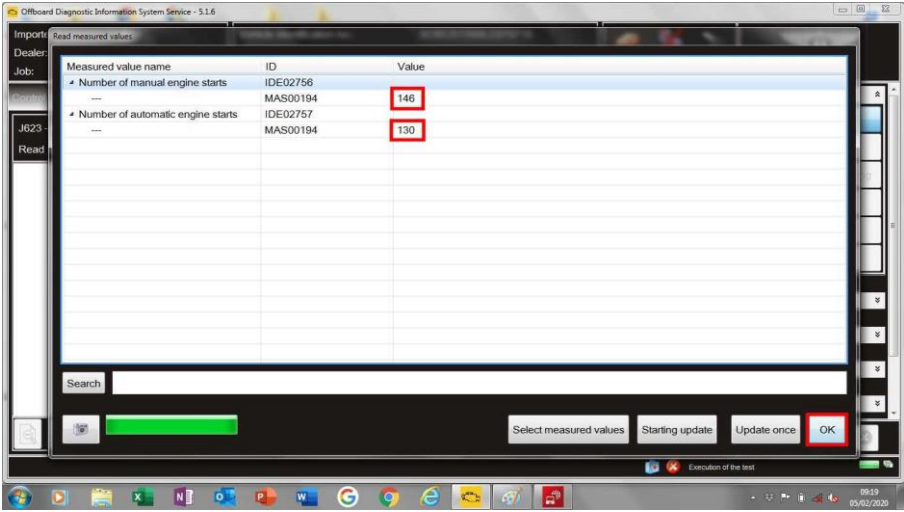

Figure 5
- Note the values of "IDE02756" and "IDE02757" and add this information to the DISS query, select "OK" – Figure 5.